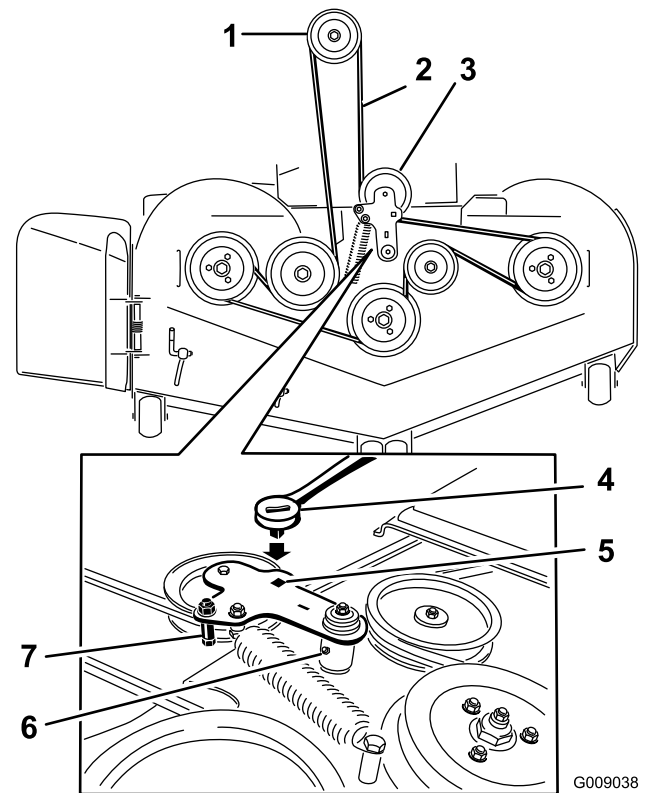

Figure 80
10. Install the belt guide on the idler arm shown in Figure 80.
11. Using the ratchet in the square hole, install the idler spring (Figure 80).
5. Use a ratchet in the square hole in the idler arm to remove tension on the idler spring (Figure 80).
7. Remove the belt guide on the spring loaded idler arm shown in Figure 80.
9. Install the new belt around the mower pulleys and the clutch pulley under the engine (Figure 80).